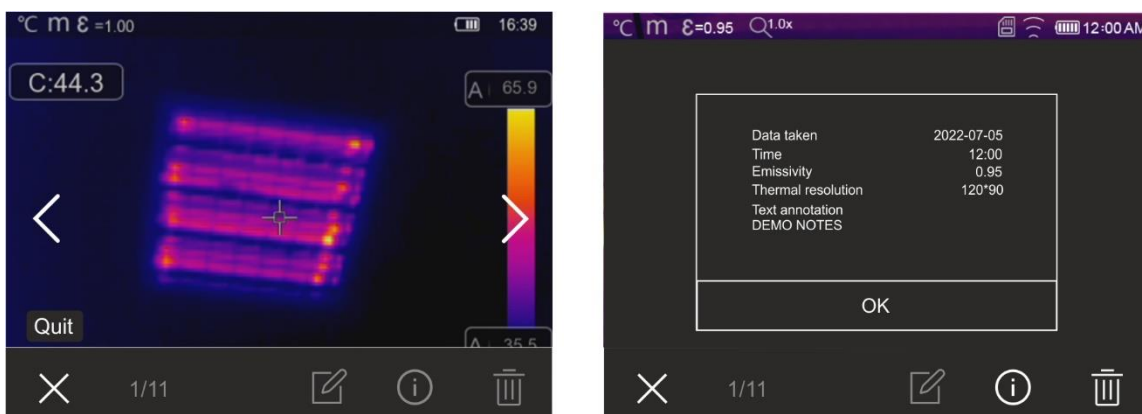

Fig. 49: Recalling on the display the images saved
1. Touch the icon to enter the gallery of the images and videos saved in the instrument's memory or on the micro SD card. The following screen in Fig. 49 – left side is shown on the display
3. Touch the icon “i” to open the section containing the information about the saved image. The screen in Fig. 49 – right side appears on the display.